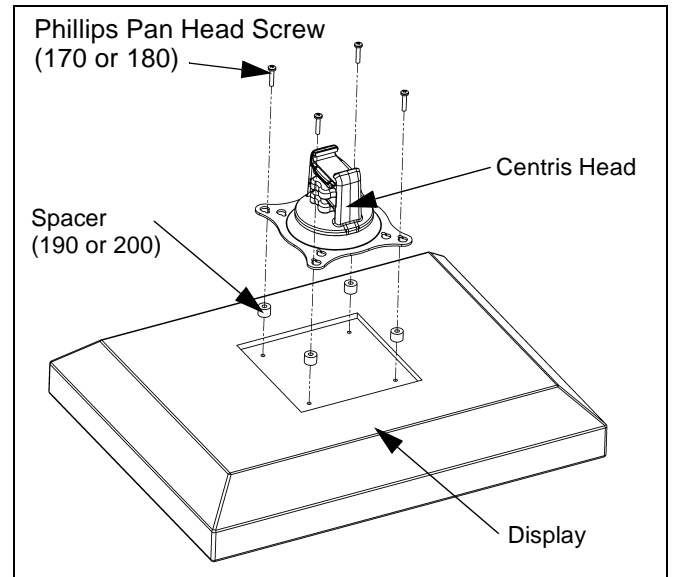

Figure 10: Mount Centris Bracket to Display
4. Place four 3/8" or 3/4" nylon spacers (190 or 200) over four mounting holes in display back (see Figure 10).
5. Align Centris head mounting holes with four nylon spacers (see Figure 10).
6. Secure Centris head to display using four M4 x 20mm Phillips pan head screws (170), or four M4 x 30mm Phillips pan head screws (180) (see Figure 10).